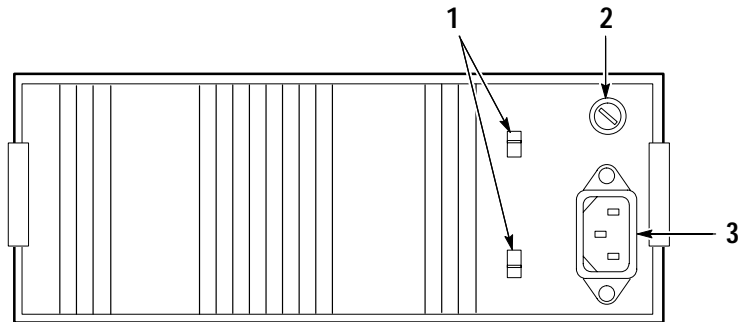

Figure 1: Line Voltage Selectors, Power Input, and Fuse Locations
Check the following items prior to operating the CPS250 Triple Output Power Supply for the first time (see Figure 1 for locations of items 1 through 3):